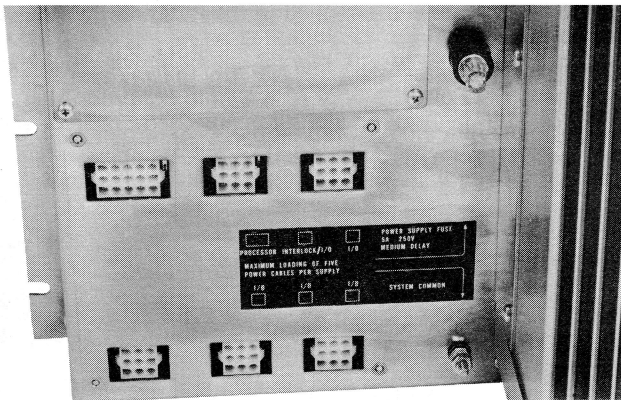

Figure 3 — Processor and I/O Sockets
6.0 Power Connections — There are 6 sockets on the Local Power Supply for power connections to the Processor and I/O Racks. (See Figure 3.) The Processor power cable fits only the upper left-hand plug socket. The I/O Power Cables (Cat. No. 1778-AC or 1778-AD) fit into any of the 5 other sockets. ¹